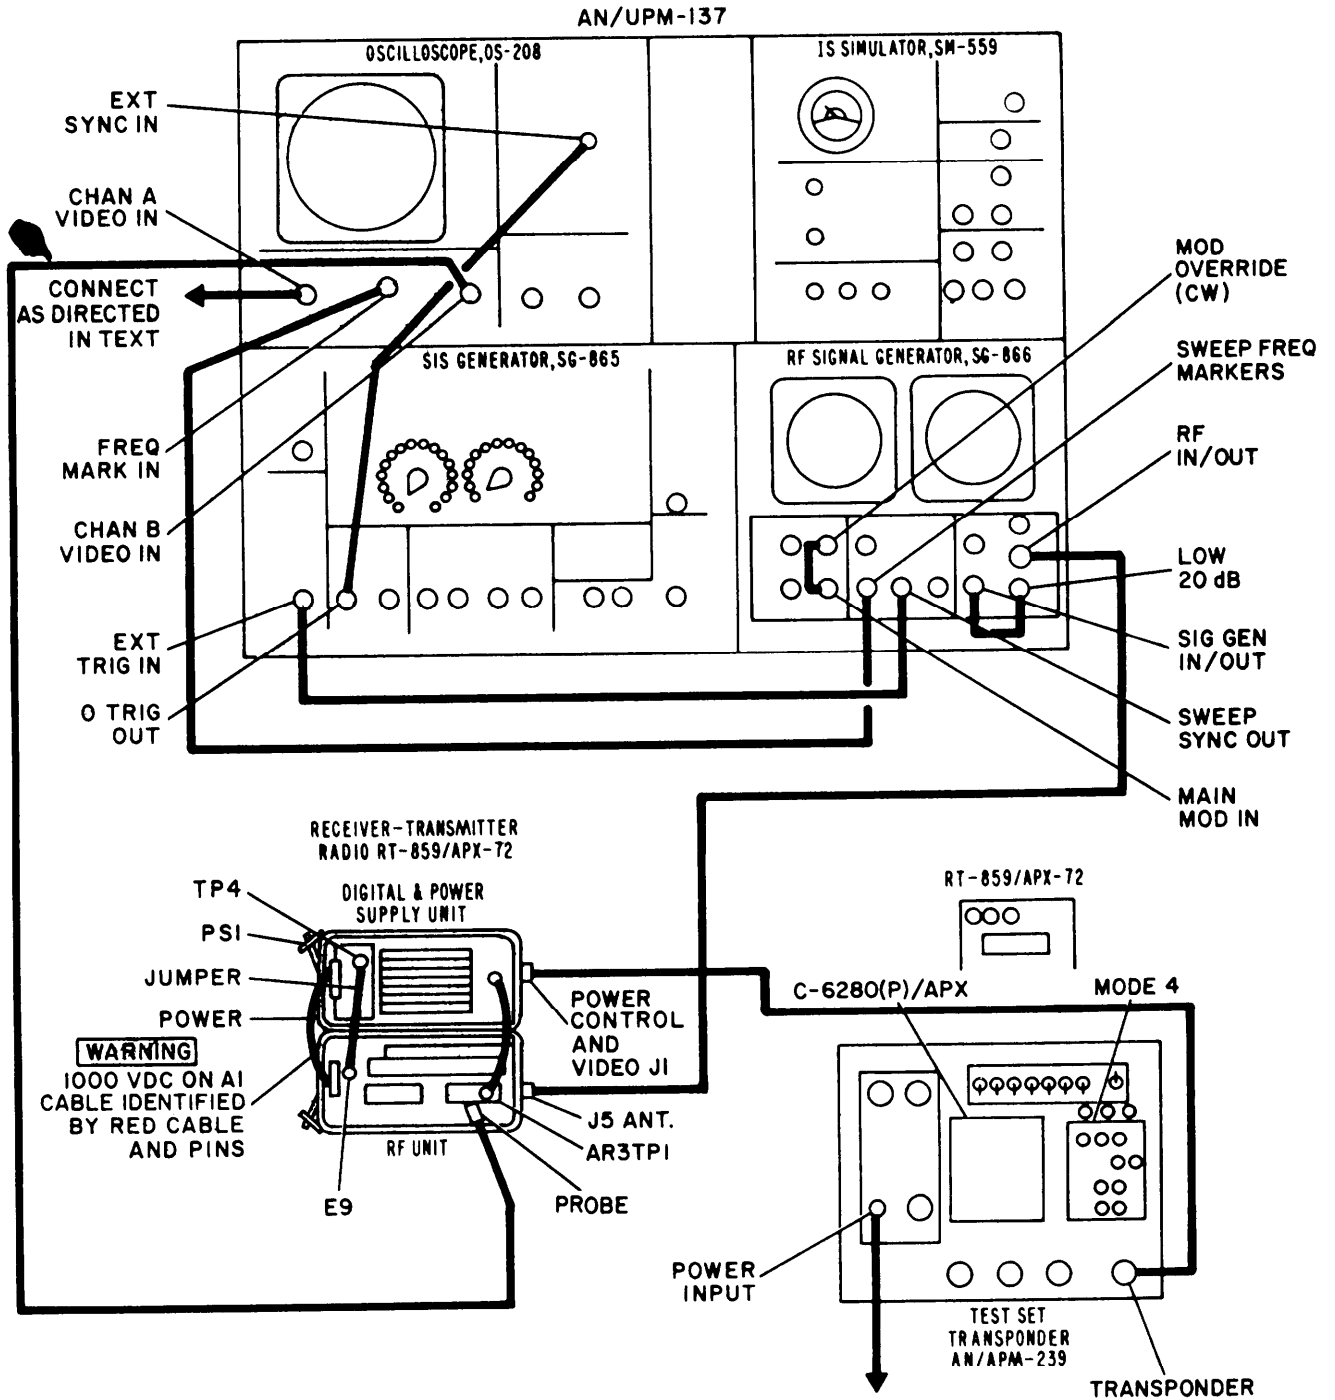

Figure 4-38. Alignment Test Setup,
1. Receiver alignment	a. Connect equipment as shown in figure 4-38, page 4-287.